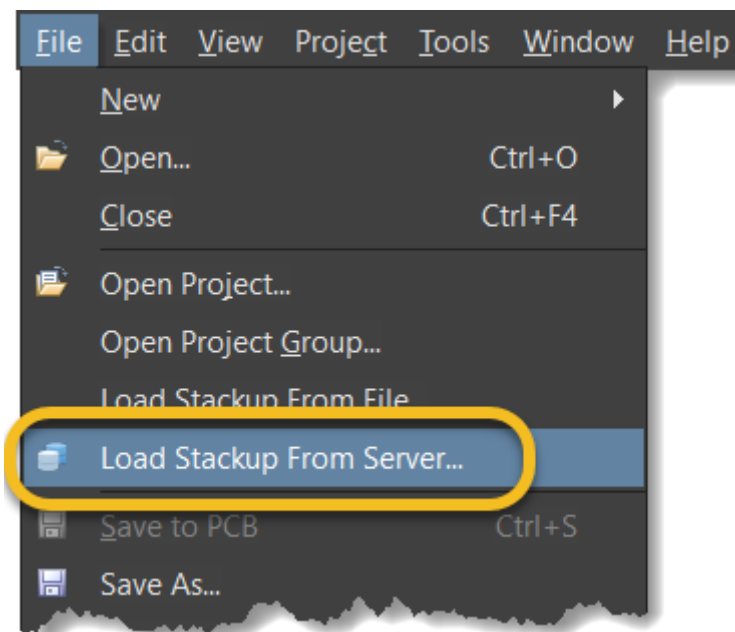

Figure 2. Load a Stackup from the Workspace
12. From the **File** menu, select **Load Stackup From Server...**, Figure 2.